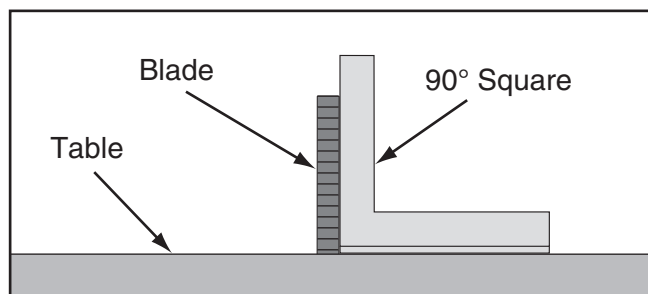

Figure 120. Checking blade at 90°.
3. Place a 90° square against the table and blade so it contacts the blade evenly from bottom to top, as shown in **Figure 120**. Make sure a blade tooth does not obstruct the placement of the square.